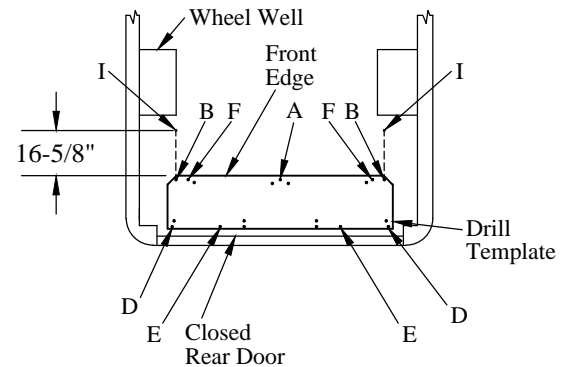

Figure 6: Drilling location (top view).
**15. Drill** 3/8" holes in nine (9) locations in the template. Drill "A", "B", "D", "E", and "F" locations only, skip all others (Figure 6).
**16. Mark** the two (2) "I" locations (Figure 6):